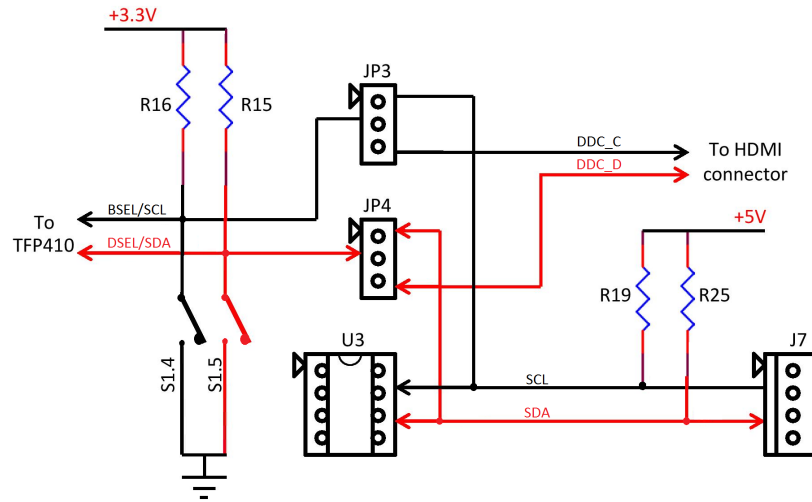

Figure 3-3. I2C and Device Addressing
- Header J7 is directly connected to U3 as shown in Figure 3-3, which allows implementation of external EDID ⁽²⁾ (it requires mounting PCF8582C-2 on board). When 12V is supplied to the EVM, SCL and SDA lines are pulled high to 5V by resistor R19 and R25 on the board. The SCL and SDA lines are also connected to pin 1 of JP3 and JP4 respectively. I2C device address of U3 can be configured by connecting the JP5 pins to either VSS or VDD. Refer PCF8582C-2 device datasheet for more details.